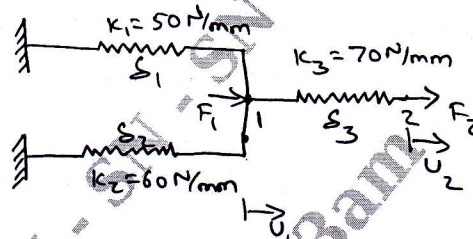

Fig.Q1(b)
b. For the spring system shown in Fig.Q1(b). Determine the nodal displacements.